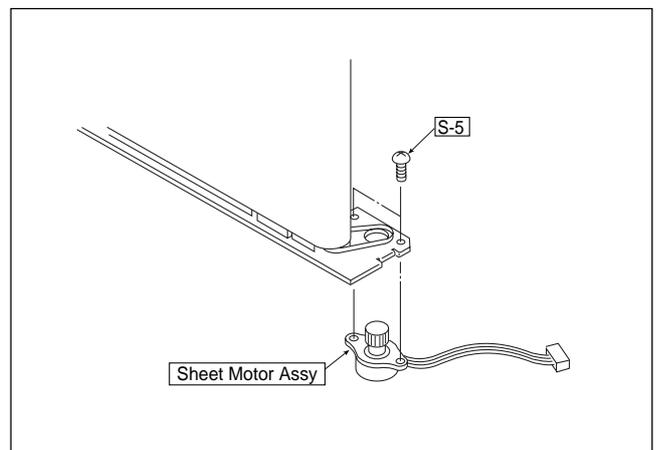

Fig. 19
17) Remove the Sheet Motor Assy. (See Figure 19.)
1. Remove the "S-5" screws as shown in Figure 19 and remove the Sheet Motor Assy.